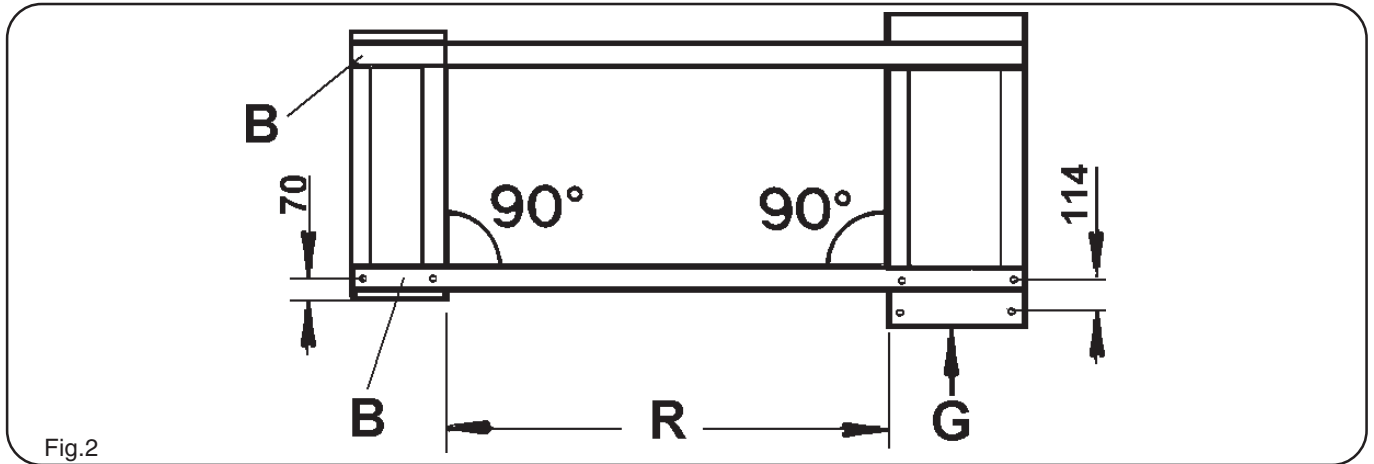

Fig.2
- Angle between fixtures and frames is 90° (check with set square), (see Fig. 2).